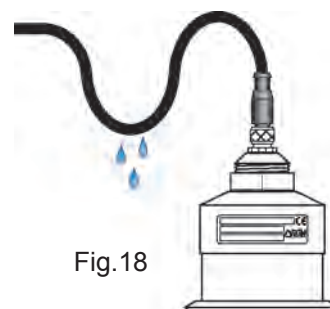

Fig.18
- position the cable so that it forms a downward curve at the M20 output (Fig. 18); in this way the condensation and/or rain water will tend to drip from the curve bottom